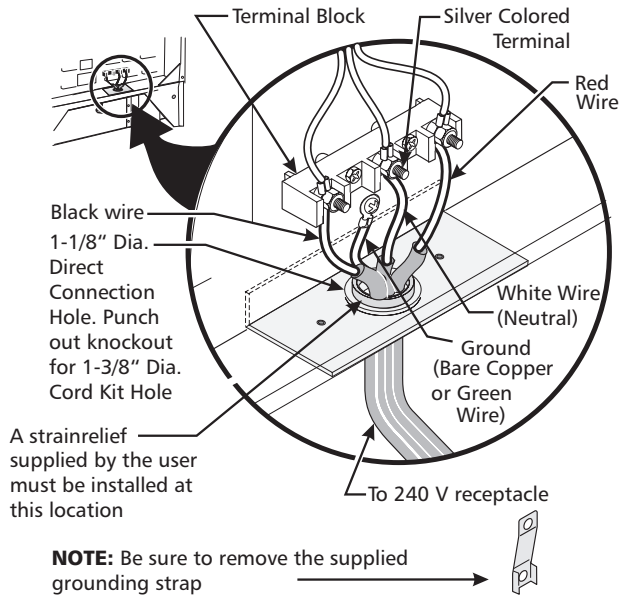

Figure 4
For mobile homes, new installations, recreational vehicles, or areas where local codes do not permit grounding through neutral, a 4 conductor power supply cord kit rated at 125/250 volts 30 Amps marked for use with ranges should be used (see Figure 4).
3. Using the nuts supplied with the literature package, connect the ground wire (green) of the copper power supply cord to the frame of the appliance with the ground screw, using the hole in the frame where the ground strap was removed (see Figure 4).
If the appliance is connected directly to the circuit breaker, fuse box or junction box, use flexible, armored or nonmetallic sheathed copper cable (with grounding wire). Supply a U.L. listed strain-relief at each end of the cable. At the appliance end, the cable goes through the Direct Connection Hole (see Figure 4) on the Cord Mounting Plate. Wire sizes (**copper wire only**) and connections must conform to the rating of the appliance.